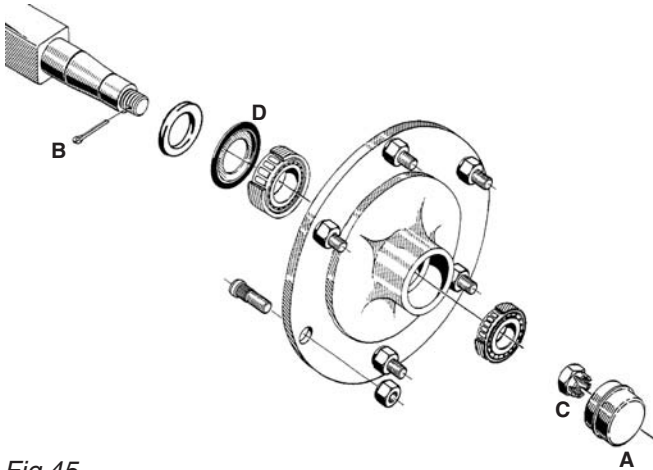

Fig 45
- 4 Remove the hub cap (A Fig 45), cotter pin (B Fig 45) and castle nut (C Fig 45).
- 7 Assemble the hub and bearings using a new sealing ring (D Fig 45).